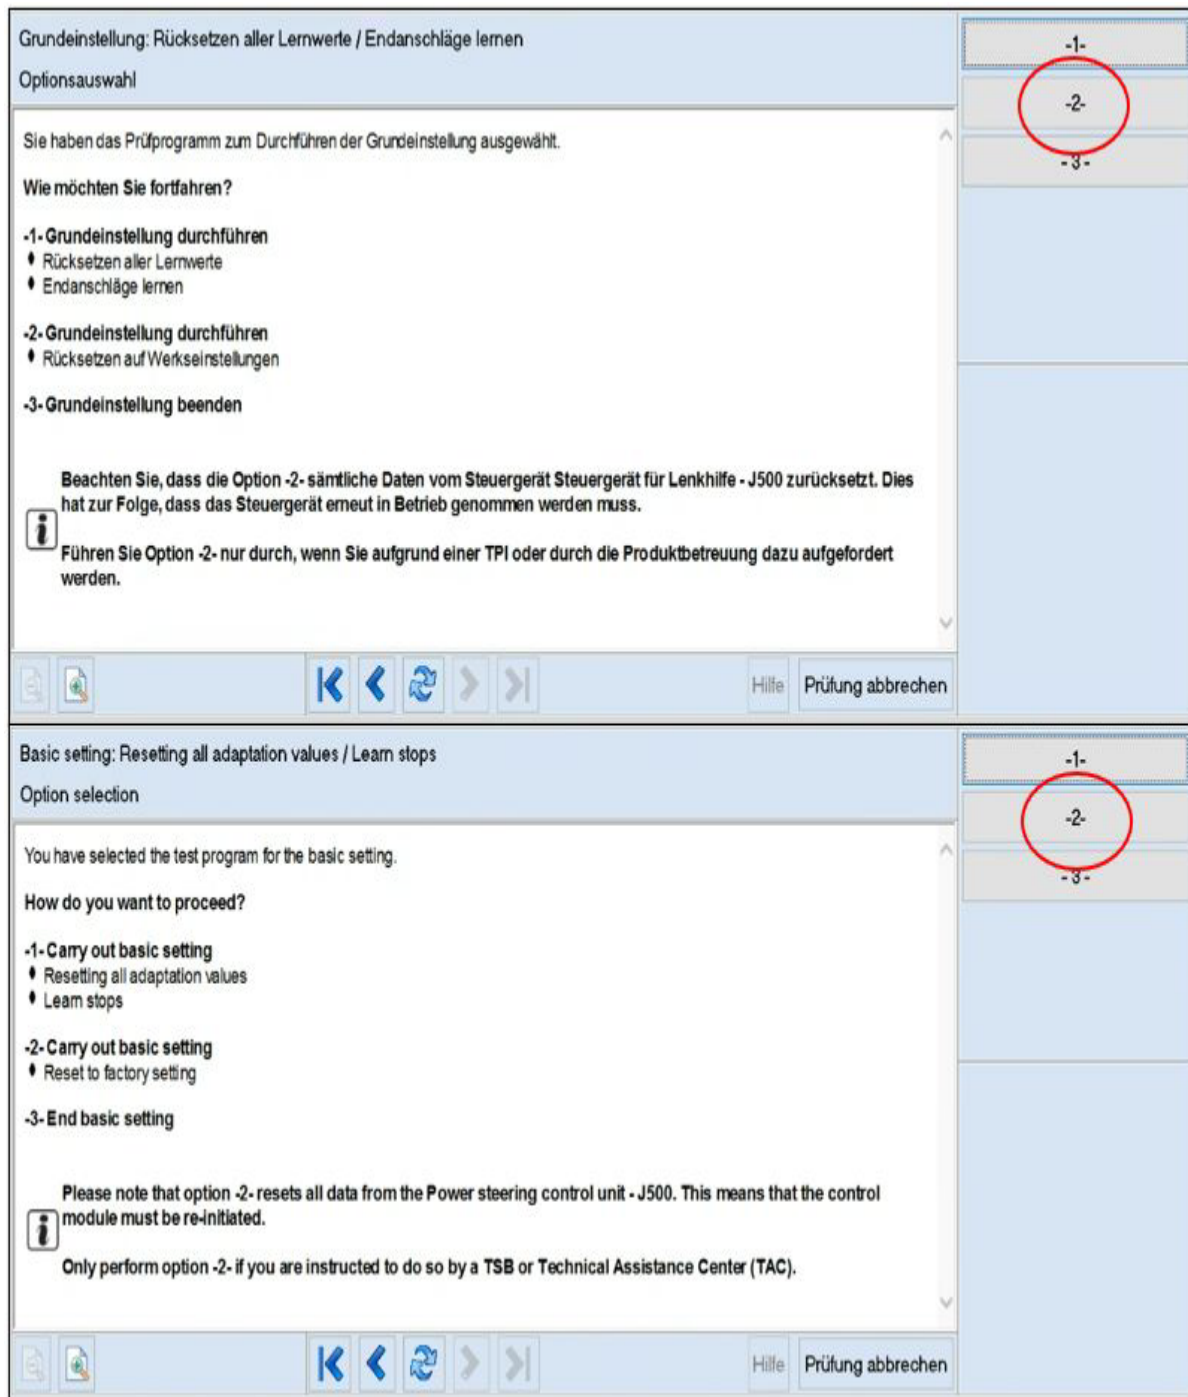

Figure 1: J500 factory settings reset – Guided Functions.
- Select option “2” as shown in the picture. (Figure 1;2).